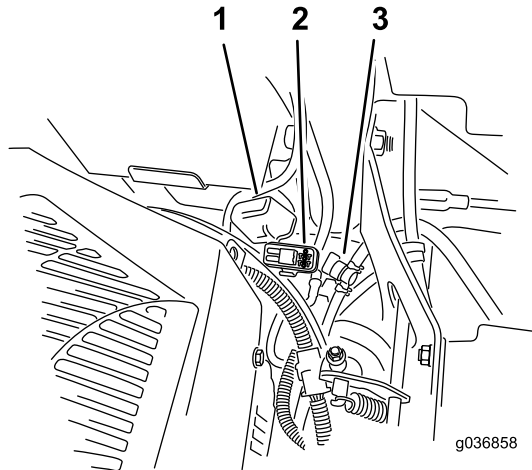

Figure 56
**Note:** For MyRide machines, ensure that the ground cable does not rub against the trailing arm or lower shock mount (Figure 56).
The fuses are located on the right console next to the seat (Figure 56).
2. Install a new fuse (Figure 56).